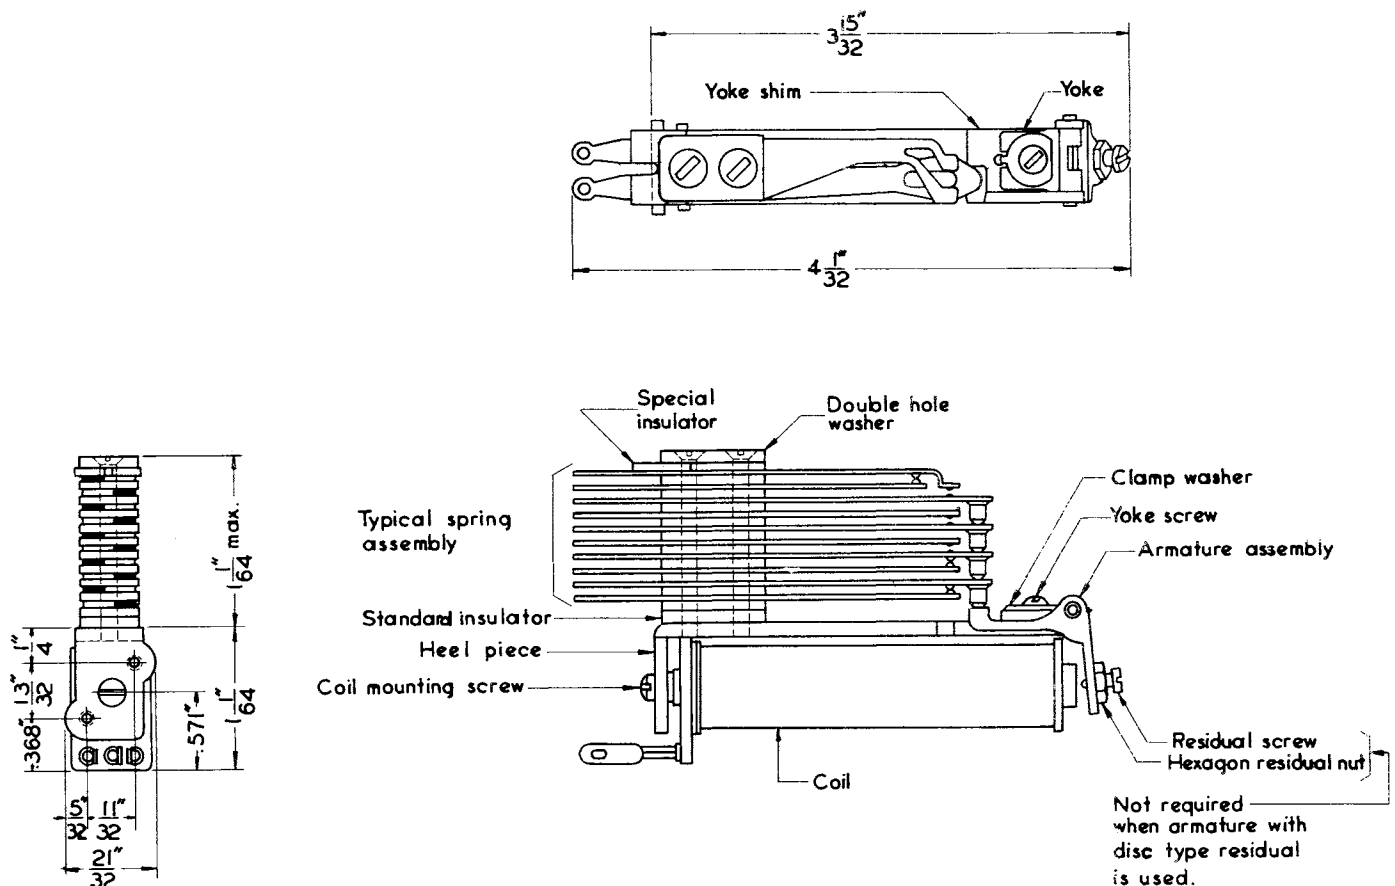

Figure 4. Typical class C relay.
**1.12 Class C relays:** Class C relays are of essentially the same length as Class B relays, namely  $3 \frac{15}{32}$ ", and the over-all length is  $4 \frac{1}{32}$ ".\* The width of the relay is a minimum of  $\frac{3}{4}$ " for two springs and a maximum of  $2 \frac{1}{32}$ " for 13 springs. The height is  $2 \frac{1}{32}$ " (see figure 4).